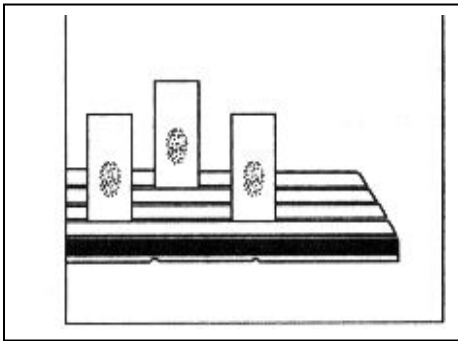

Fig. 11
- Place the smeared slides on the drying rack (Fig 11).